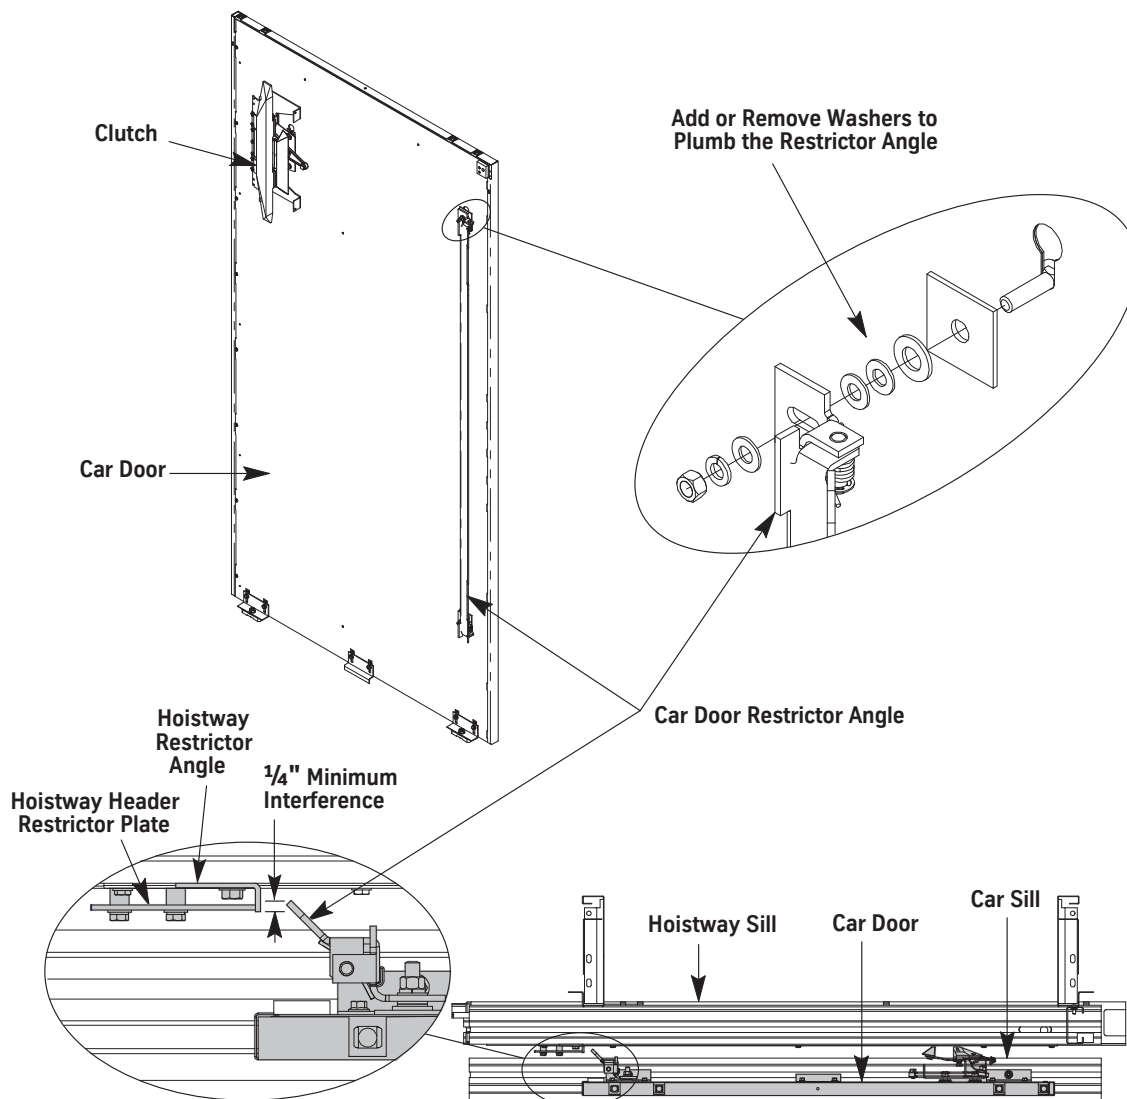

Figure 49 - Install the Car Door Restrictor
2. Use washers to adjust the car door restrictor so that it is plumb with a 1/4" minimum interference when the car door restrictor engages the hoistway restrictor angle. See Figure 49.